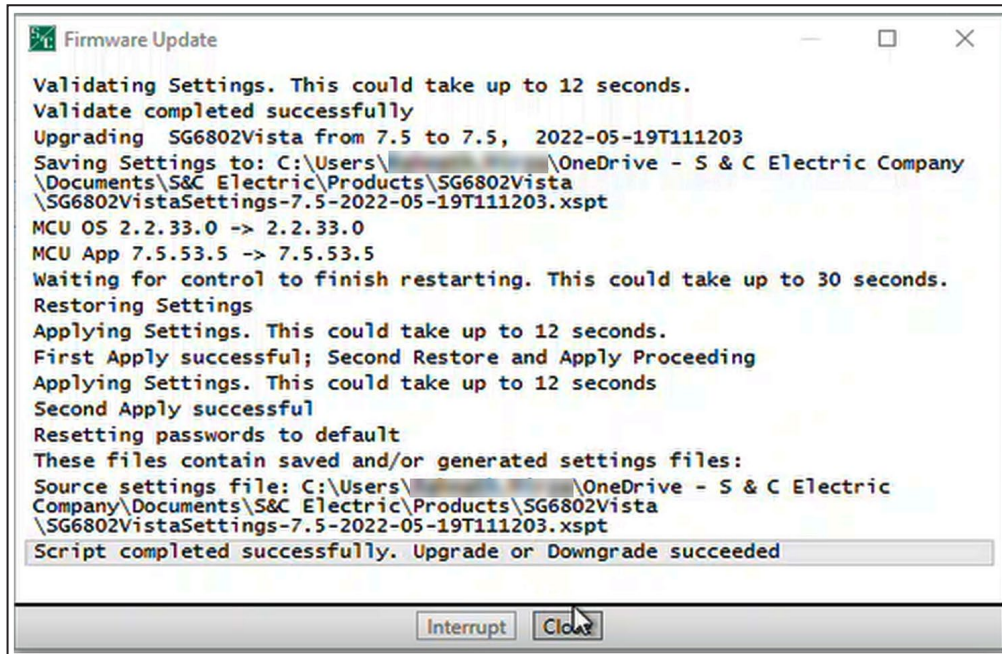

Figure 25. The Script completed successfully notice.
**STEP 13.** When “Script completed successfully” is indicated in the Firmware Update dialog box, click on the **Close** button. See Figure 25.